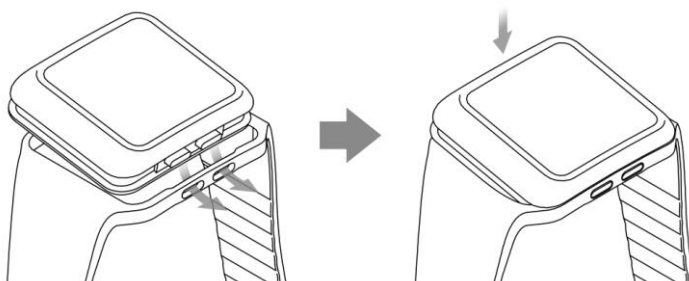

Figure 4. Attach the Watchband
2. Align the watch case with the watchband as illustrated in **Figure 4**.